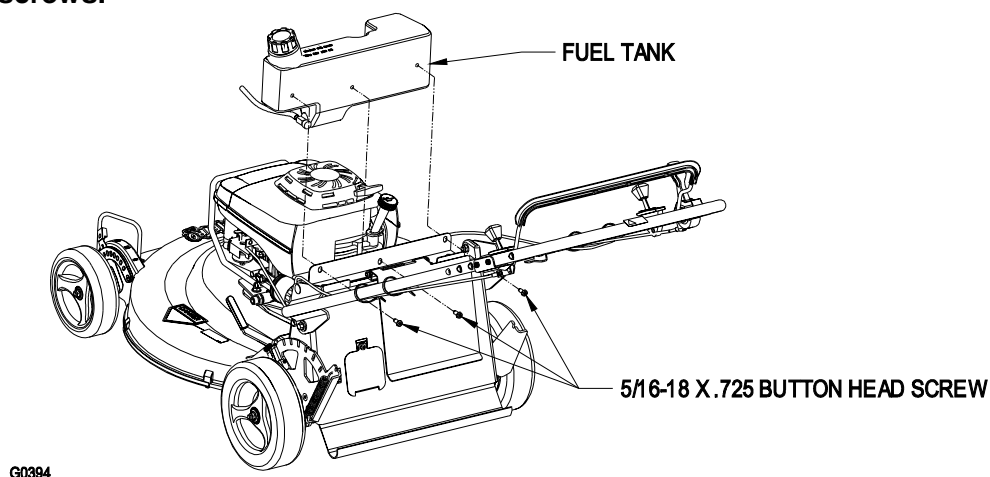

FIGURE 2
1. Position the tank onto the bracket (Fig. 2).
2. Start the 3 self-tapping screws into the tank and tighten (Fig. 2). **Do not overtighten the screws.**